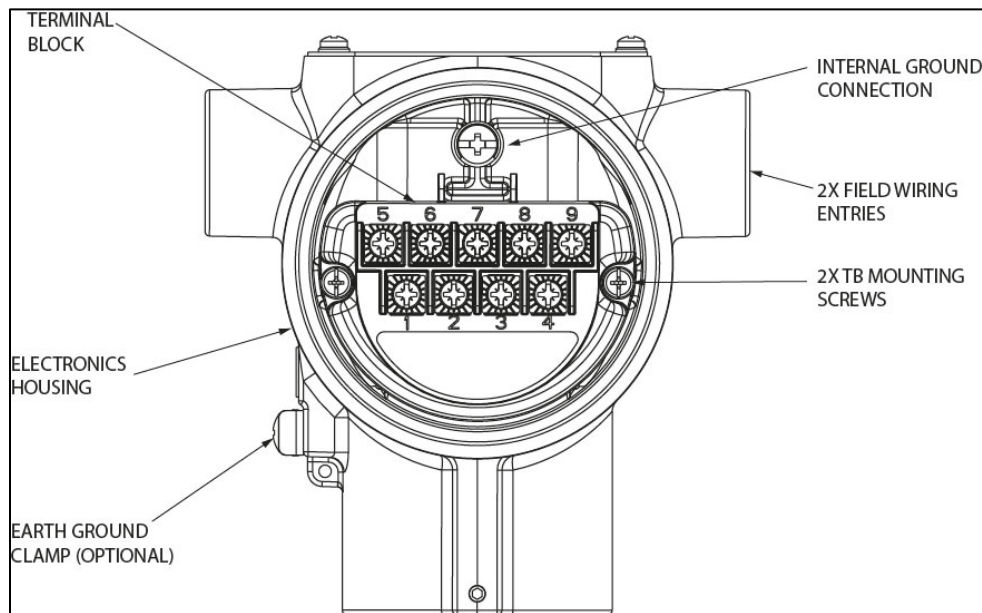

Figure 7 – Transmitter 9-Screw Terminal Board and Grounding Screw
As shown in Figure 7, each Transmitter has an internal terminal to connect it to earth ground. Optionally, a ground terminal can be added to the outside of the Electronics Housing. Grounding the Transmitter for proper operation is required, as doing so tends to minimize the possible effects of noise on the output signal and affords protection against lightning and static discharge. An optional lightning terminal block can be installed in place of the non-lightning terminal block for Transmitters that will be installed in areas that are highly susceptible to lightning strikes. As noted above, the Loop Power wiring shield should only be connected to earth ground at the power supply end.
1. See Figure 7, above, for parts locations. Loosen the end cap lock using a 1.5 mm Allen wrench.
Connect a wire from the Earth Ground Clamp or to the Internal Ground Connection (see Figure 7) to Earth Ground to make the protection effective. Use a size 8 AWG or (8.37mm²) bare or green covered wire for this connection.
For ungrounded Thermocouple, mV, RTD or ohm inputs connect the input wiring shield(s) to the Internal Ground Connection shown in Figure 7.
For grounded Thermocouple inputs, connect the Internal Ground Connection shown in Figure 7 to the same earth ground as used by the thermocouple.